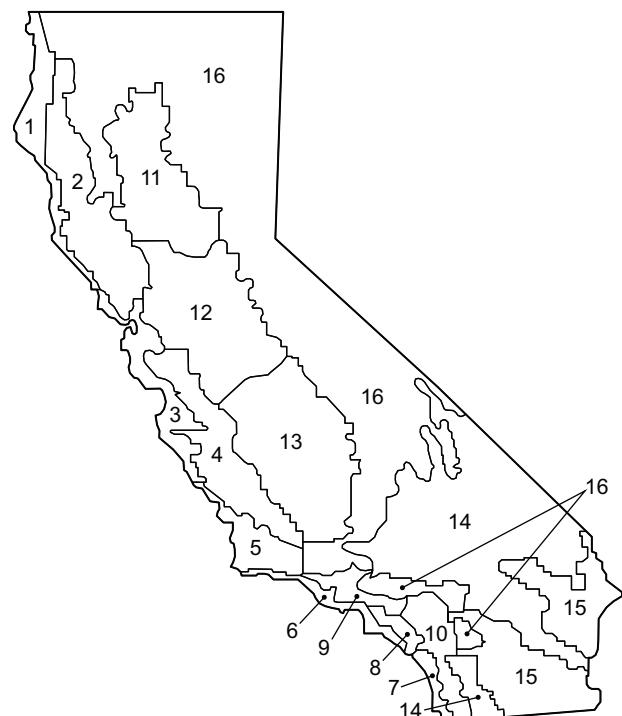

Fig. 83 — California Title 24 Zones
- b. See Fig. 83 for map of California Title 24 zones.